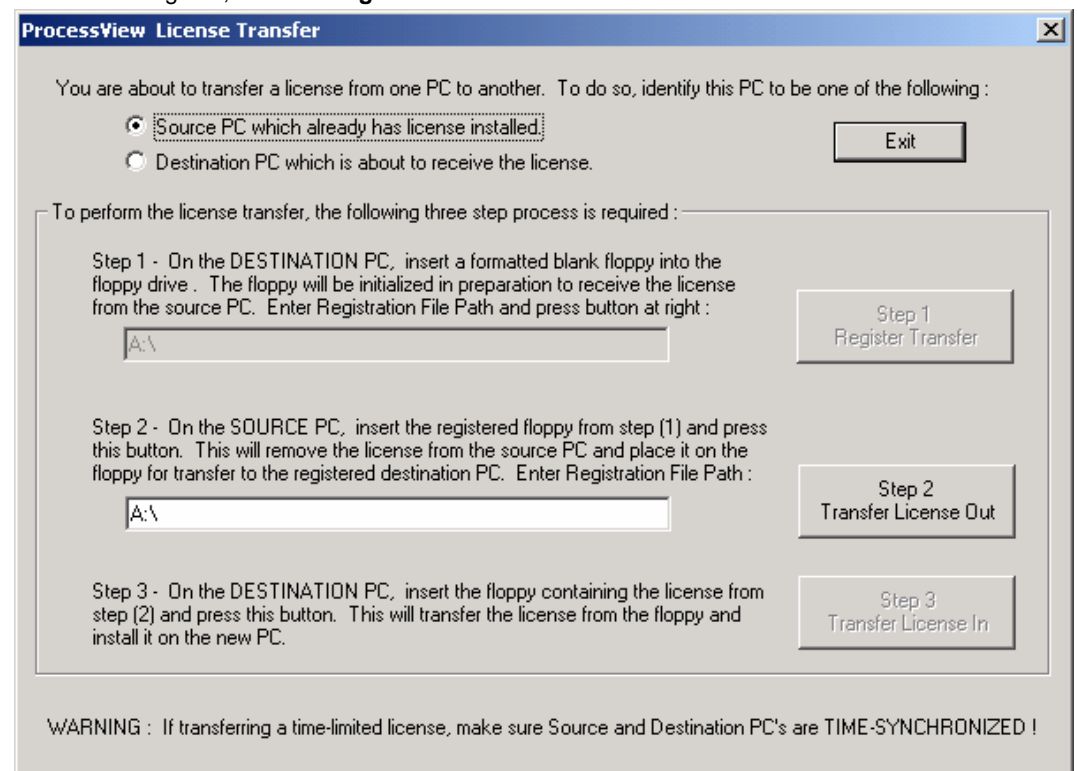

Figure 3.22. Transferring a License
1. On the target computer, select **Transfer License** from the **Actions** menu of the ProcessView License Utility to generate registration files on a floppy disk. This opens the **ProcessView License Transfer** dialog box, shown in **Figure 3.22**.